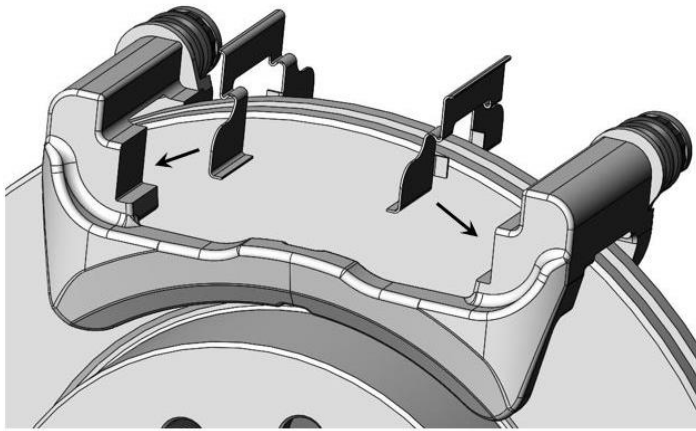
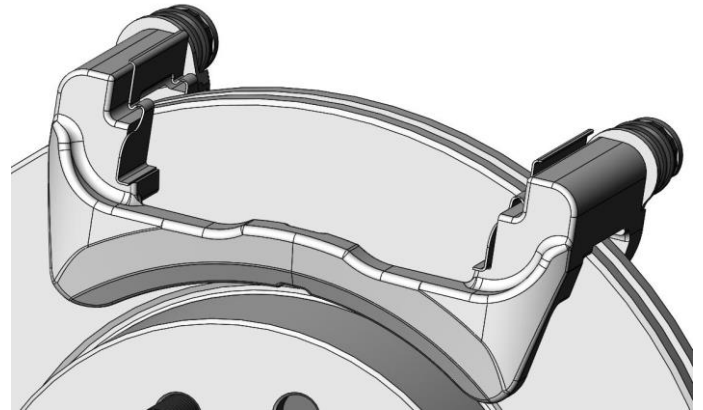

Figure 6a – Abutment Clips Installation
Figure 6b – Abutment Clips Installed
10. Place the Stainless-steel Abutment Clips into the Caliper Anchor Bracket at this time. Refer to Figure 6a and Figure 6b Below for installation reference.